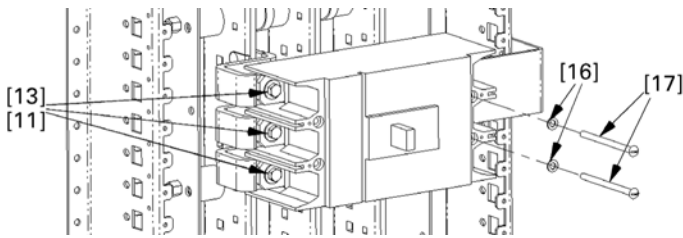

Figure 33. Installing a circuit breaker.
7. Install circuit breakers. Figure 33 illustrates circuit breaker installation. For main breaker operation, position the device so that the load- or OFF-side terminals rest on the straps and the opposite side is supported by the mounting bracket. For single-branch operation, mount the breaker so that the line- or ON-side terminals rest on the straps and the opposite side rests on the mounting bracket.